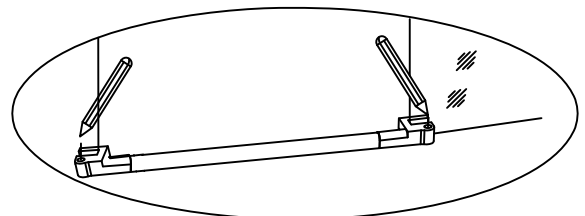

Fig.38
Position the Door Threshold bar (11) to floor by aligning in door opening with fixed glass. Mark the Threshold End Cap (12) mounting hole locations. See Fig.38 for details.